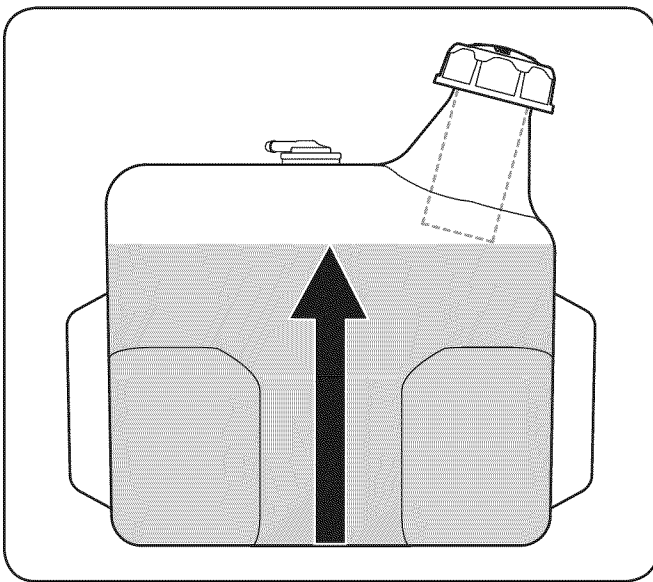

Figure 3-8
2. Fill the fuel tank with gasoline. Use only clean, fresh (no more than 30 days old), unleaded gasoline. Fill tank to no more than 1/2 inch below bottom of filler neck to allow space for fuel expansion. See Figure 3-8.
IMPORTANT: Do not overfill the tank. Fill tank to no more than 1/2 inch below bottom of filler neck to allow space for fuel expansion. See Figure 3-8.